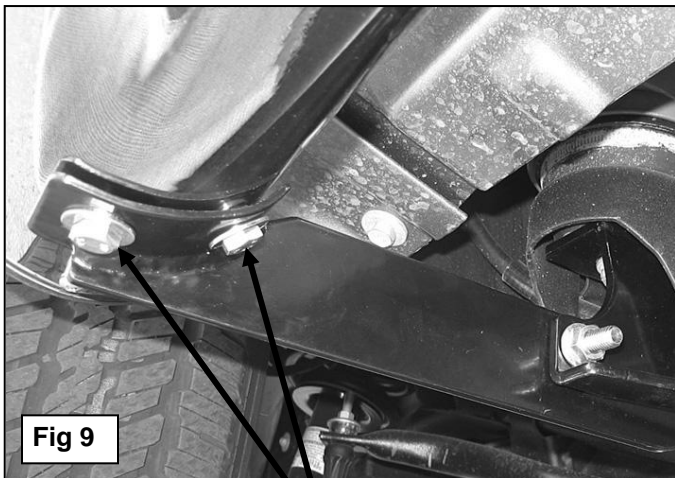

Fig 9
7. Carefully position the Driver Sidebar onto the Mounting Brackets. Attach the Sidebar to the Mounting Brackets with (6) 8mm x 25mm Hex Bolts, (6) 8mm Lock Washers and (6) 8mm Flat Washers, (Figure 9). Do not tighten hardware at this time.